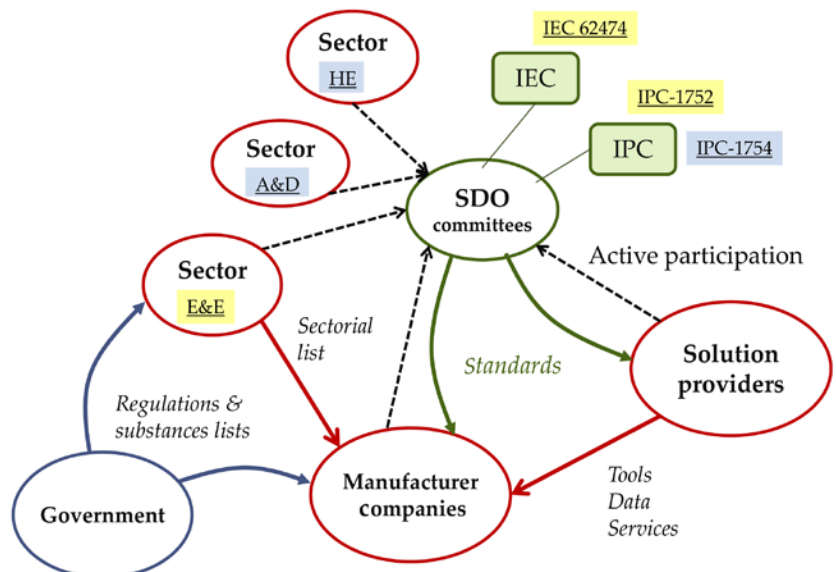

Figure 14: Current governance model for developing standards.
Existing materials and substances in articles (and raw materials) data exchange standards—IPC-175x and IEC 62474—have defined their governance models according to their current scope: the single sector for IPC-1752 and IEC 62474, or two sectors for the IPC-1754 (Figure 14).
The governance model presented in Figure 14 would need to adapt to more sectors being represented and influence the standard development. The European Proactive Alliance (PA) that gathers dozens of sectors represented by their European trade associations is one exam-